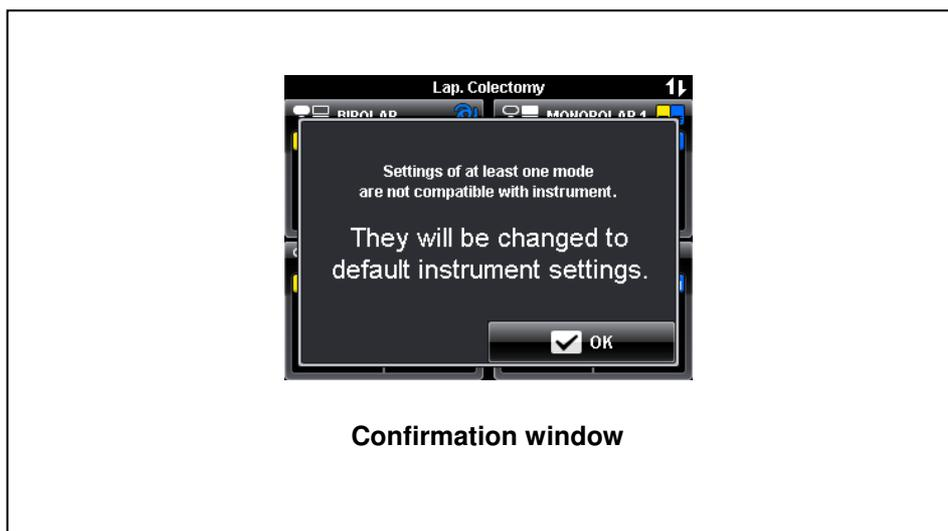

Figure 5.7
- If the displayed settings are allowed for the Olympus HF instrument but at least one setting of power level or effect of an unselected mode is out of range of the allowed Olympus HF instrument settings, a confirmation window according to figure 5.7 will appear. Press the "OK button" to continue. Just the permitted settings will be changed to the default instrument settings and the display returns to the "All screen".